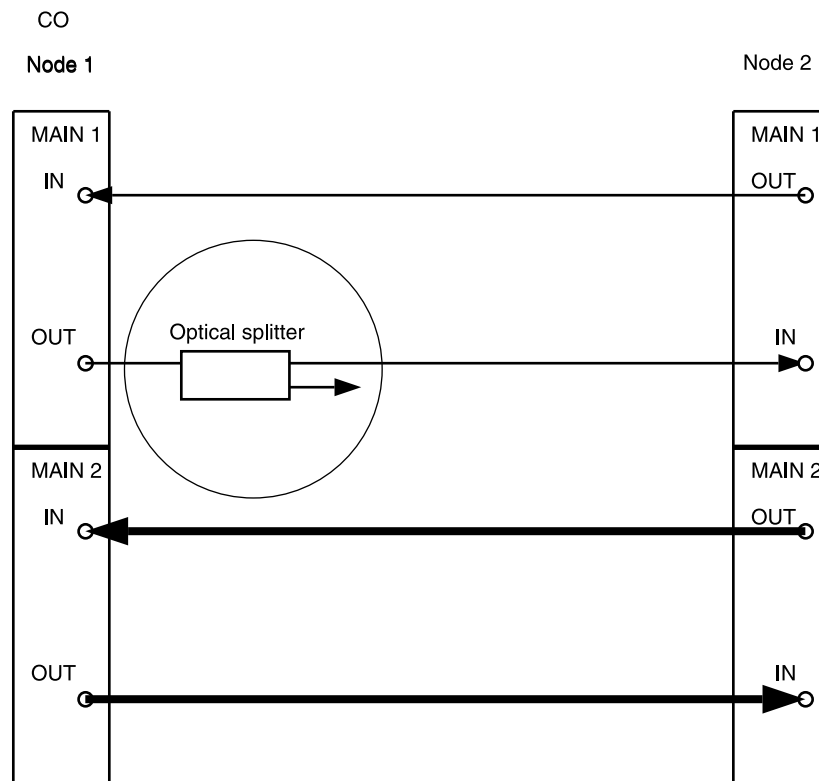

Figure 2 – DDM-2000 OC-3 Point-to-Point to Ring Upgrade
12. At Node 1, install optical splitter in optical line between Node 1 **MAIN 1 OUT** and Node 2 **MAIN 1 IN** as shown in Figure 2.